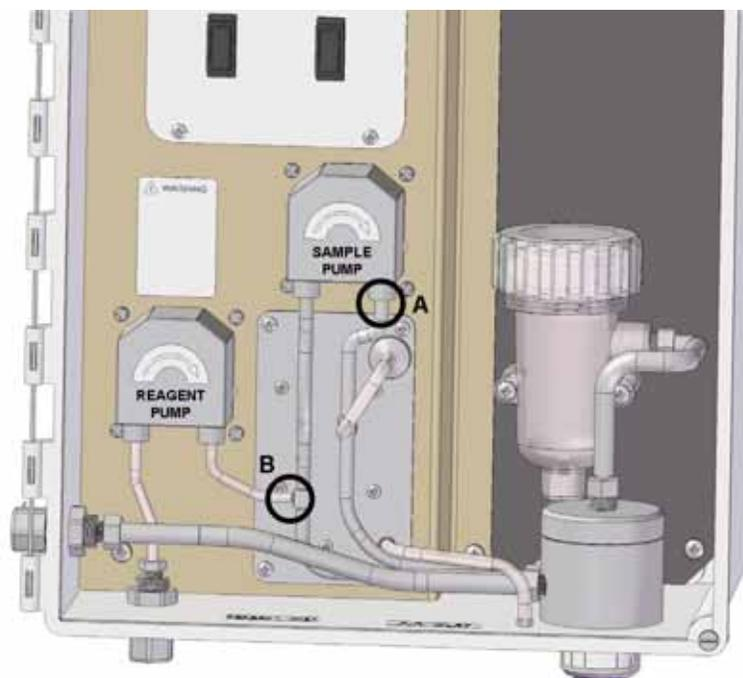

FIGURE 11-1. Disconnecting sample (A) and reagent (B) tubing prior to checking flow.
- b. Disconnect the luer fitting on the discharge of the sample pump. See **A** in Figure 11-1.
- b. Disconnect the reagent tubing at the injection tee. See **B** in Figure 11-1.